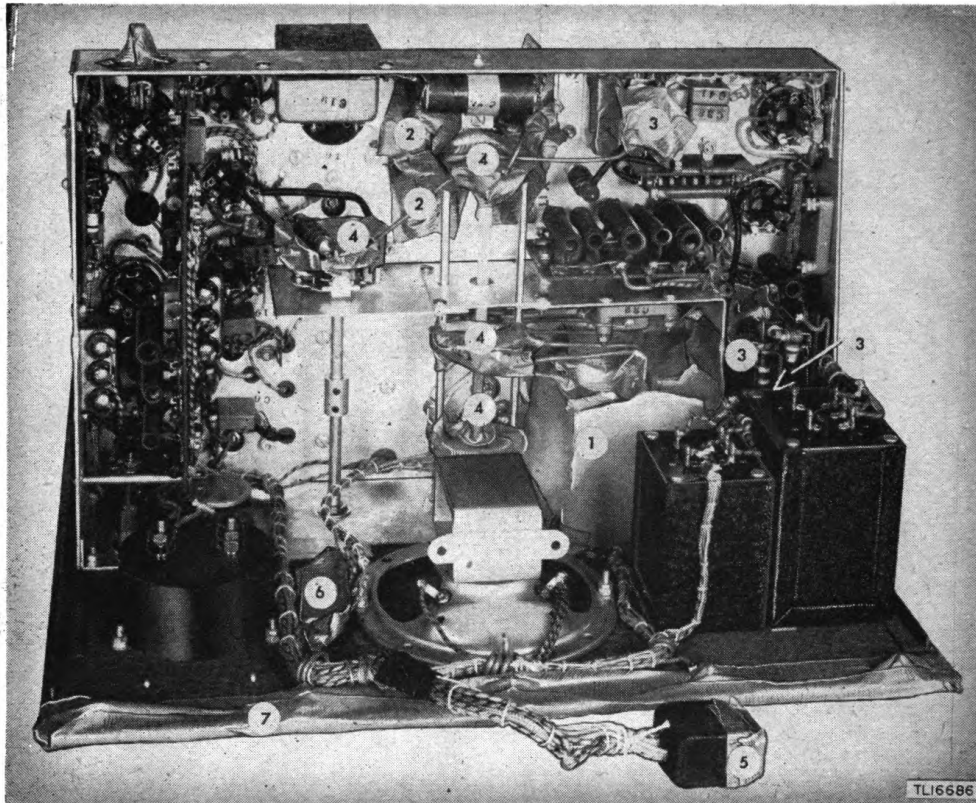

Figure 11. Radio Receiver and Transmitter BC-441-(), masked chassis—bottom view.*
- (5) Rubber grommets on transformer cans. Varnish is injurious to rubber.
- (6) Trimmer screws on transformer cans. Tape must completely seal holes.
- (7) Crystal sockets.
- (8) Interlock switch.
- (9) Antenna change-over relay with paper and tape.
- (10) The two knurled nuts on the top of the front panel.
- (11) Porcelain antenna insulator.
e. MASKING BOTTOM OF RECEIVER AND TRANSMITTER CHASSIS (FIG 11). Mask the following components:
- (1) Power-amplifier plate tuning capacitors. Mold paper around